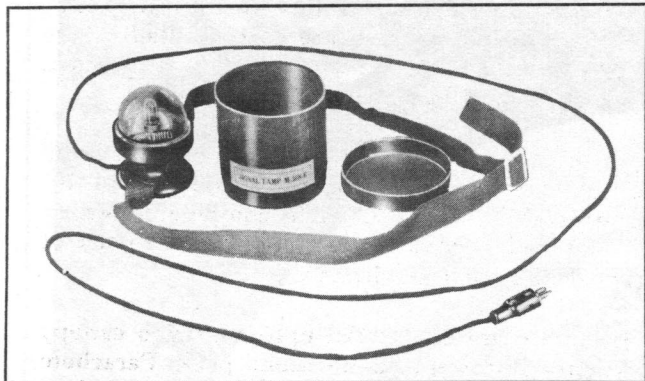

Figure 1-6. Signal Lamp M-308-B
e. SIGNAL LAMP M-308-B.—The signal lamp (see fig. 1-6) consists of a plug, cord, cylindrical bakelite lampholder with a lamp socket attached, a lamp, a domeshaped shield, and a strap to attach the lampholder to the top of the operator's head. A spare lamp is supplied in a clip next to the lamp socket. The signal lamp is omnidirectional.